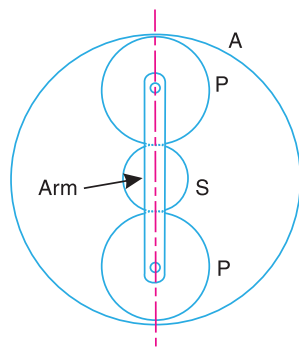

Fig. 13.37
8. An epicyclic gear train, as shown in Fig. 13.37, has a sun wheel S of 30 teeth and two planet wheels $P - P$ of 50 teeth. The planet wheels mesh with the internal teeth of a fixed annulus A . The driving shaft carrying the sunwheel, transmits 4 kW at 300 r.p.m. The driven shaft is connected to an arm which carries the planet wheels. Determine the speed of the driven shaft and the torque transmitted, if the overall efficiency is 95%.